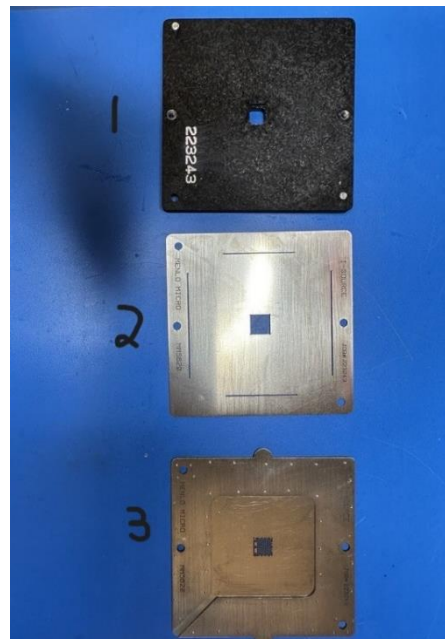

Figure 2: MM5620/MM5622 Stencil (contains 3 layers)
- MM5620/MM5622 Stencil [Figure 2]